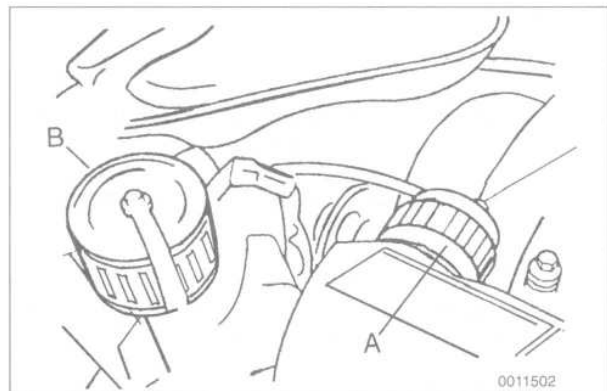

Fig. 44. Main wiring harness connector (A) and diagnostic connector (B).
- separate main harness plug and set wiring harness aside, see Fig. 44